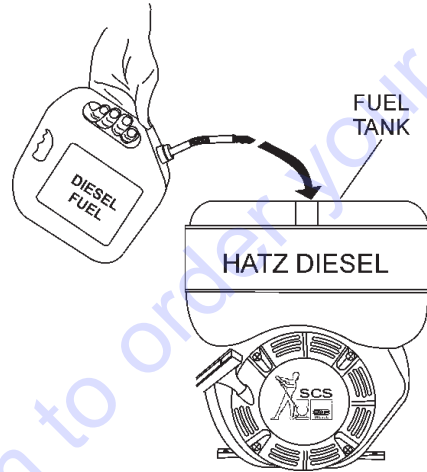

Figure 15. Adding Diesel Fuel
1. Lift the fuel cap latch located on top of the fuel tank then look inside the tank and determine if the mixer's engine fuel is low. If fuel is low, fill with **#2 diesel fuel** (Figure 15). See Table 4 for other types of recommended fuel.